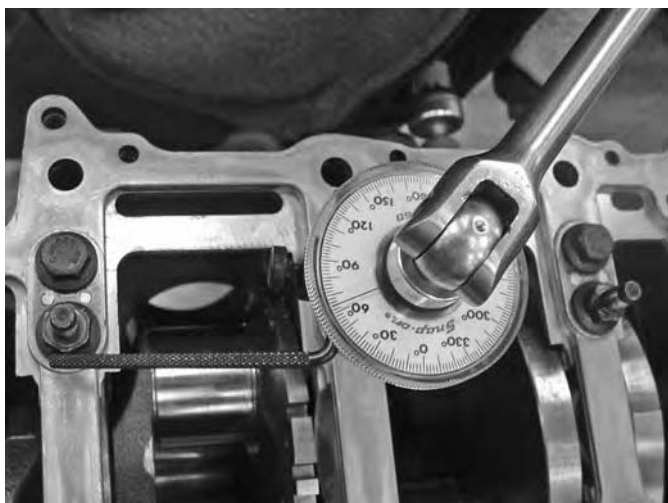

Figure 16.13 A torque angle gauge measures how far a fastener is turned, following a low initial tightening with a torque wrench.
- Then turn it an additional 35° to 180°, depending on the specification (**Figure 16.13**).